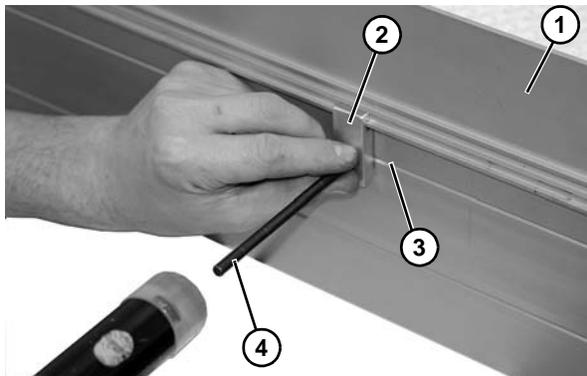

**Figure 24**
3. Hand tighten the screws to secure (**Figure 24**). Recommended torque is 150 in-lb (17 Nm).